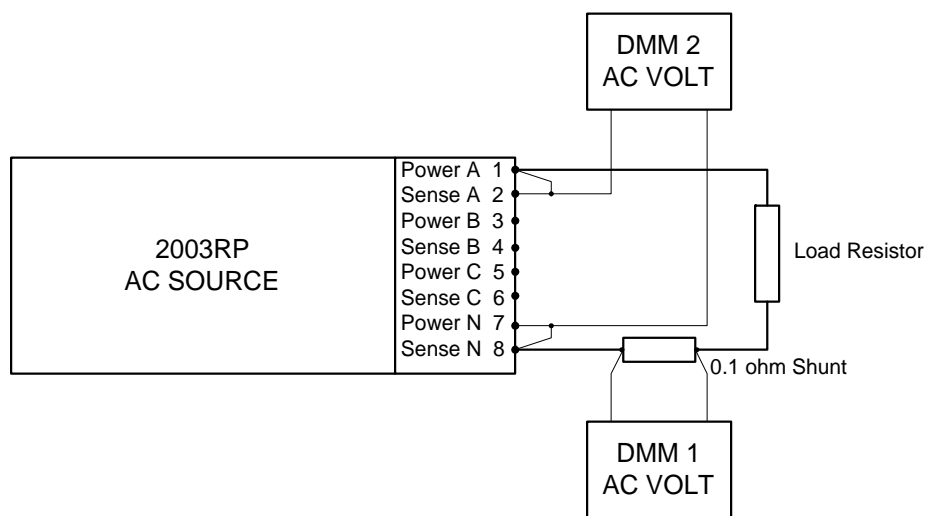

Figure 6-2: Test Equipment Hook-up for Current and Power Measurement Calibration
1. Connect the test equipment to the power source as shown in Figure 6-2. **Do not** connect any load during this step. Voltage calibration must be done under no load conditions.
1. Connect the test equipment to the power source as shown in Figure 6-2.
1. Connect the test equipment as shown in Figure 6-2. Use full load resistance for the low voltage range.